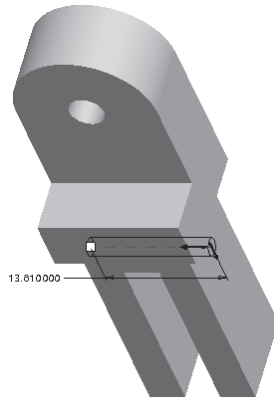

Figure 5-70 The two arrows on the cut feature
3. Choose the **Named View List** button from the **View** toolbar; the flyout is displayed. Choose the **Default Orientation** option from the flyout; the model orients in its default orientation, that is, trimetric view, as shown in Figure 5-70. Two yellow arrows also appear on the model. One arrow indicates the direction of feature creation and the other arrow
indicates the direction with respect to the sketch from where the material will be removed. Figure 5-70 shows the direction where the arrows are pointing.